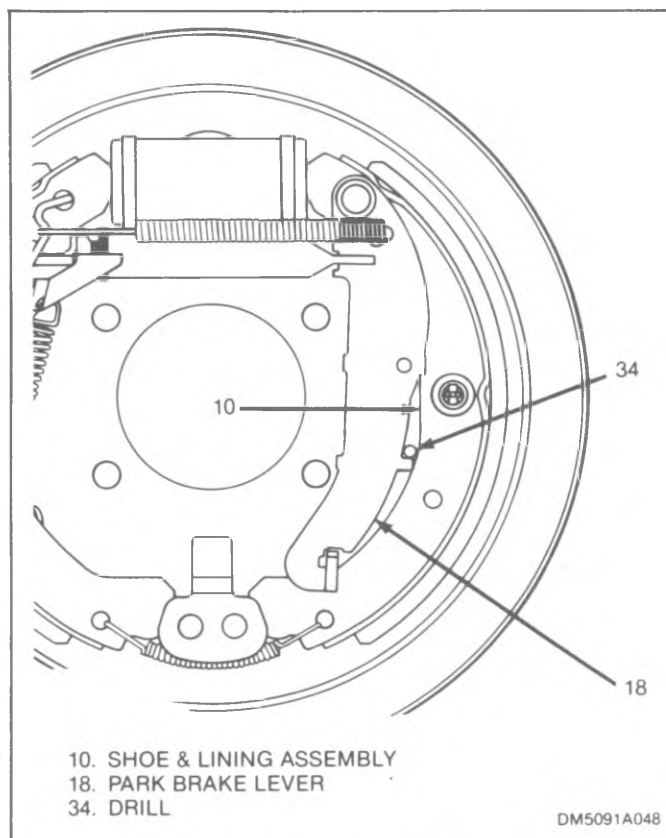

Figure 4-8. 1986 LeSabre, Delta 88 and Bonneville Parking Brake Adjustment
2. Adjust park brake cable until a 1/8 inch (3.17 mm) drill (34) can just be inserted through the access hole into the space between the shoe web and park brake lever as shown in figure 4-8. Satisfactory parking brake cable adjustment is achieved when a 1/8 inch (3.17 mm) drill will fit into the space but a 1/4 inch (6.35 mm) drill will not.